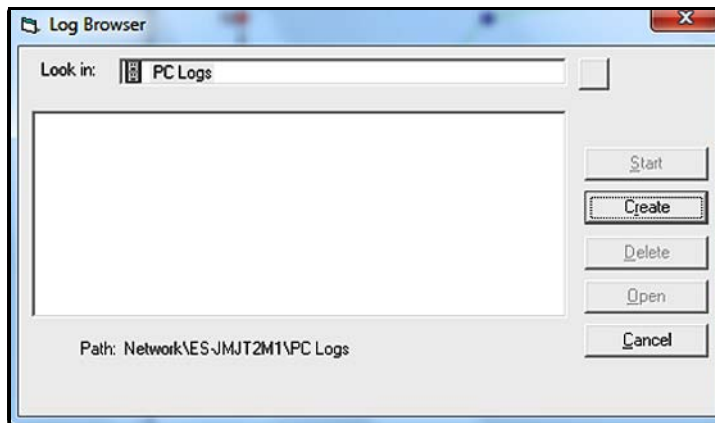

Figure 72: Create a PC Log
4. Double click on *PC logs* to advance to the dialog box shown in *Figure 72* below.
5. At the dialog box shown in *Figure 72* on page 52, click on the **[Create]** button to create a new meter log.